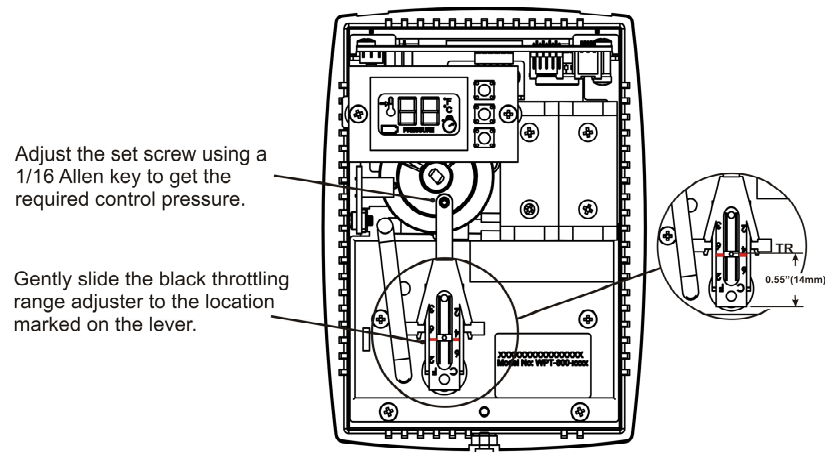

Figure 5. Calibrating the WPT
3. The black throttling range adjuster has been factory set to the location marked on the lever as shown in Figure 5. The factory setting provides a Throttling Range of about 4°F. The bi-metallic strip can be damaged if enough care is not taken while moving the throttling range adjuster. Use a gentle nudging motion on the throttling range adjuster, without exerting force on the bi-metal strip as this type of force will likely damage the bi-metallic strip.
6. Use a 1/16" hex Allen wrench and very carefully turn the calibration set screw on the thermostat lever as shown in Figure 5, until the branch pressure reads around 8 PSI. Use extreme caution not to allow the lever to rotate sideways while adjusting the setscrew. Damage to the bi-metallic spring can result if the end of the lever is allowed to move left, or right, by more than 1/16". Note down the temperature displayed on the LCD. It should be consistent with the ambient temperature of the environment.